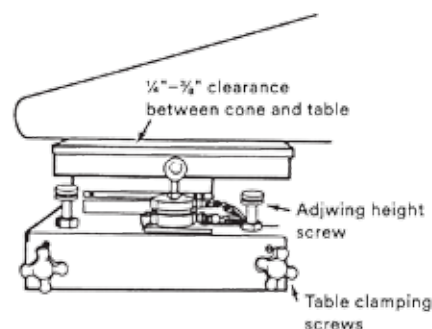

Figure 3
6. Adjust the table height until there is approximately  $\frac{1}{4}$  to  $\frac{3}{8}$  inch clearance between the cone and the carpet strip on the table top. This is accomplished by loosening the table clamping screws and adjusting the table height screws. (See Figure 3.) Retighten the table clamping screws.